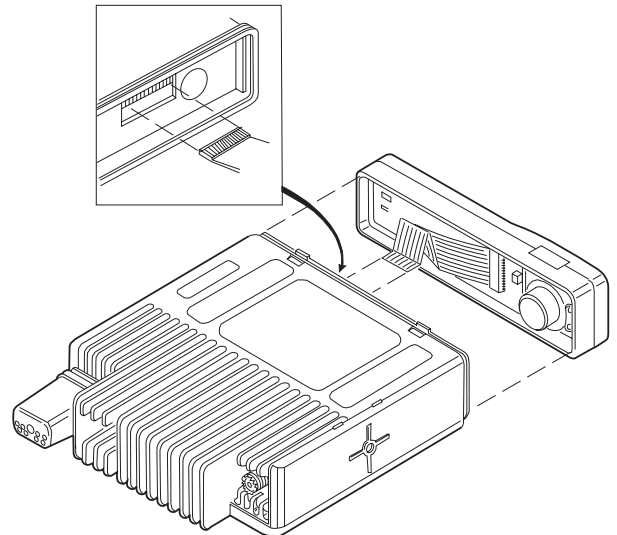
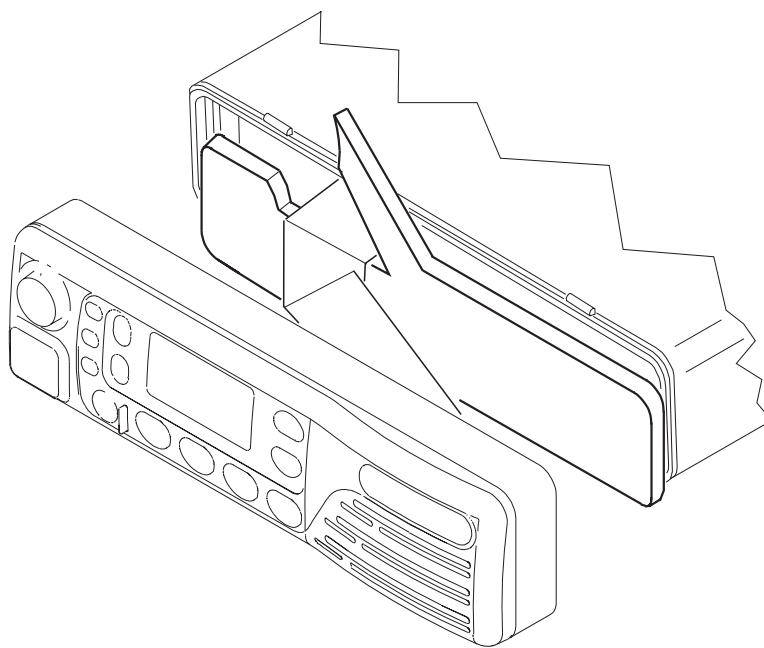

Figure 5-2. Flat Cable Removal
Figure 5-6.
5. Remove the speaker pad and flat cable from the connector on the radio side. Refer to Figure 5-2 and Figure 5-6.
3. Assemble the speaker pad by sliding the slit of the pad over the flat cable. Refer to Figure 5-6.